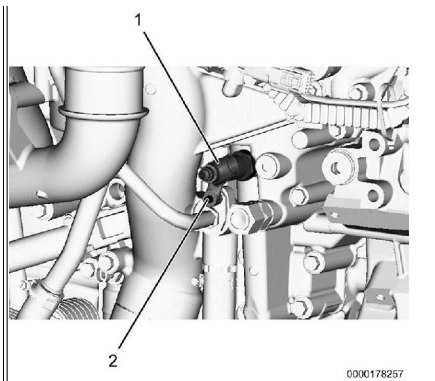

Figure 9: Oil Supply T-fitting.
18. Slide oil supply T-fitting (Figure 9, Item 1) over adapter assembly fitting and M6 stud bolt (Figure 9, Item 2).